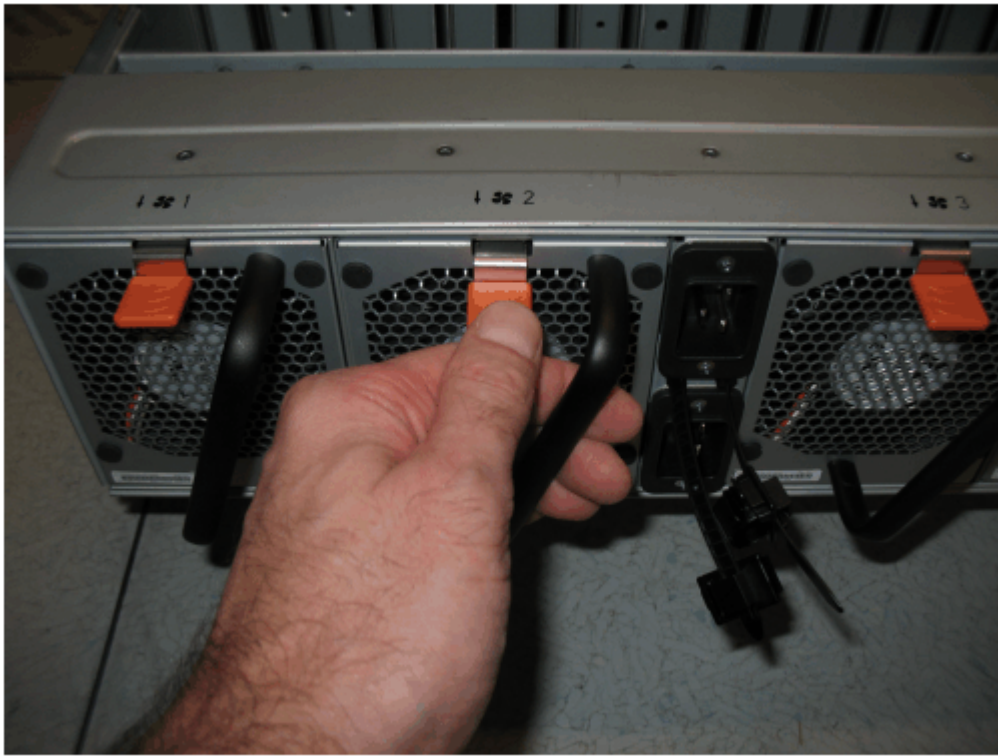

Figure 144. Fan module release tab
2. Press the release tab on the fan module, as Figure 144 on page 185 shows.